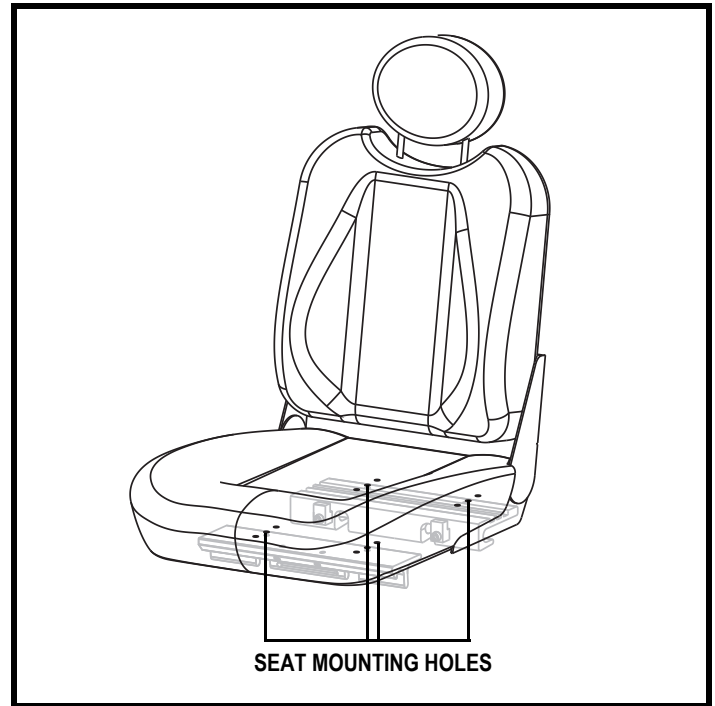

Figure 17. Seat Position Adjustment
7. Reposition the extrusions on a different set of mounting holes. You must move both extrusions the same number of holes either forward or backwards. **See figure 17.**